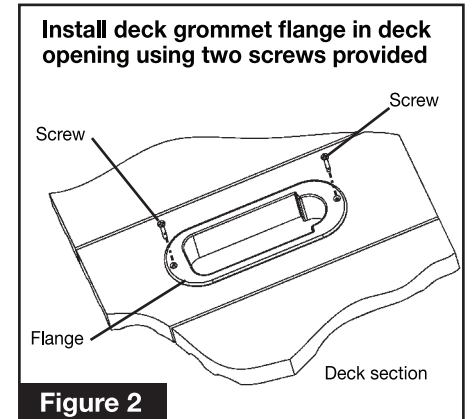

Figure 2
4. Place the flange into the cutout opening. Drill a 1/8" diameter pilot hole at each screw location. Secure the flange to the deck using the two wood screws provided (Figure 2).